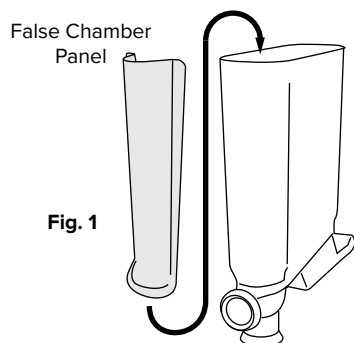

Fig. 1
1. Install the False Chamber Panel as shown in Figure 1. Note that the curve matches the curve of the Container. If the False Chamber is installed incorrectly, the product filled into the cavity area will not stay in place.